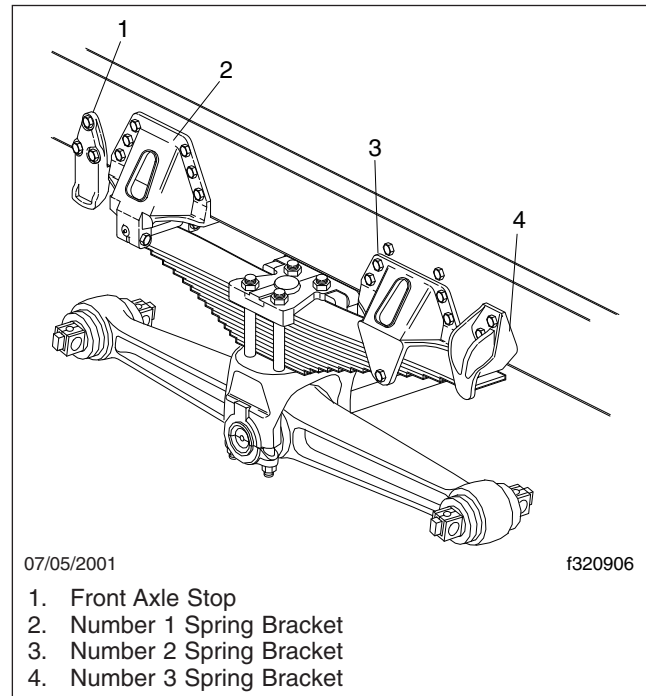

Fig. 8, Hendrickson RT Series Suspension
1. Inspect the fasteners that attach the suspension brackets to the frame. See Fig. 8. See Group 00 for bolt torque specifications.
2. Check that the torque on the number one spring bracket lock bolts is 45 to 63 lbf-ft (62 to 85 N-m). See Fig. 8.
4. Inspect the cam surfaces of the number two spring bracket and number three spring bracket for wear due to high mileage. See Fig. 8. Also check the inner side edges of the hanger legs for wear. Excessive wear on the sides of the legs is an indicator there may be problems with the spring eye bushing. Excessive wear at either point requires that the spring hanger be replaced.